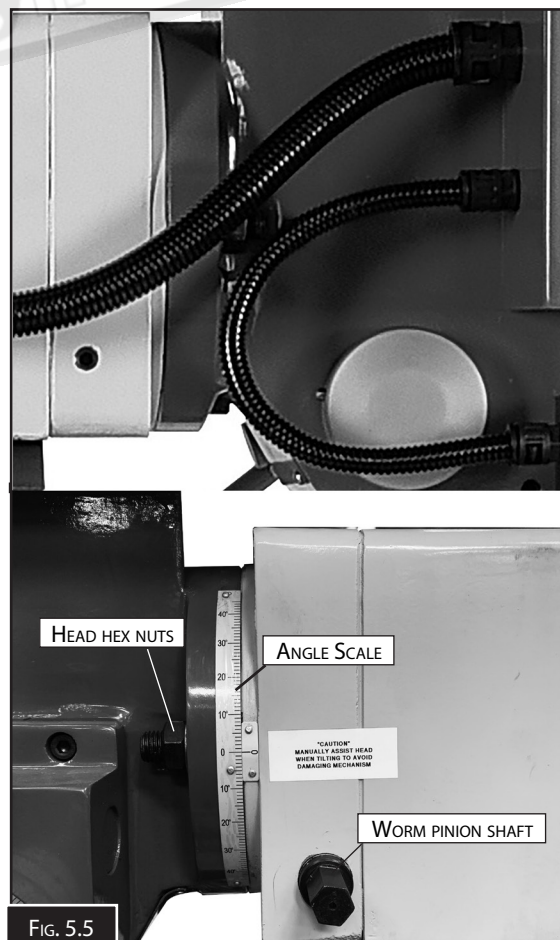

FIG. 5.5
2. Using a spanner, loosen anticlockwise the 3 hexagon nuts located at the rear of head end of the overarm as shown in Fig.5.5
**Note:** Use the angle scale shown in Fig. 5.5 as a guide for setting tilt angle. For an accurate angle the use of a protractor will be required.